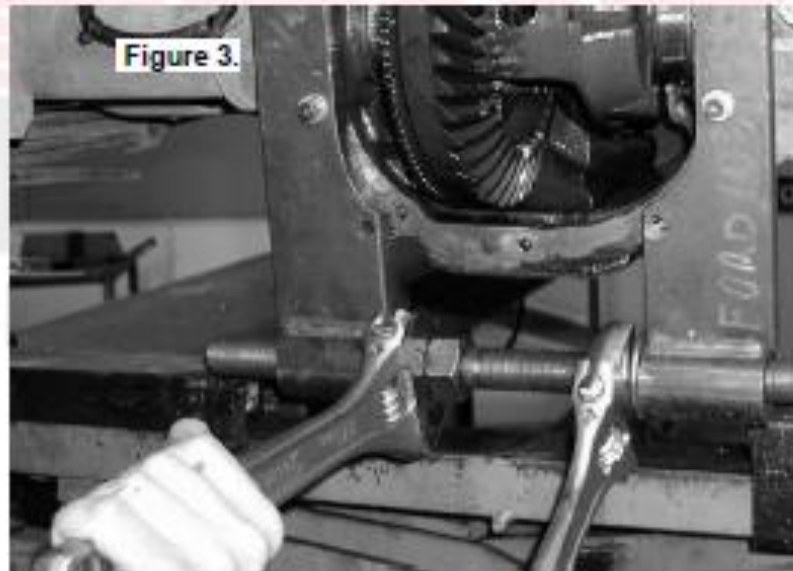

Figure 3.
Spreading the differential housing with a differential case spreader is a step which is critical to set up bearing pre-load on cast iron differential housings (See Figure 3.). Improper pre-load will result in undue bearing wear, increased stresses in the differential center, increased running noise, and ultimately, ring and pinion gear damage.
- ☐ Carefully spread the housing (Fig.3.) enough to remove the differential center. (Refer to your vehicle's service manual).